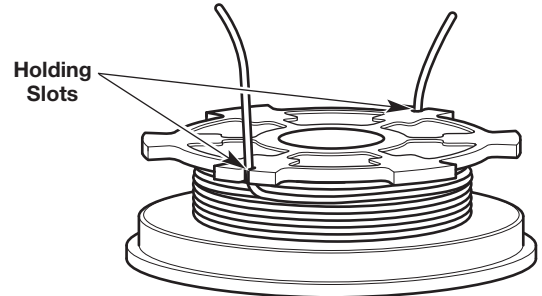

Fig. 31
4. Insert the two 6-inch ends into the two holding slots (Fig. 31).
6. Insert the two 6-inch ends into the two holding slots (Fig. 31).